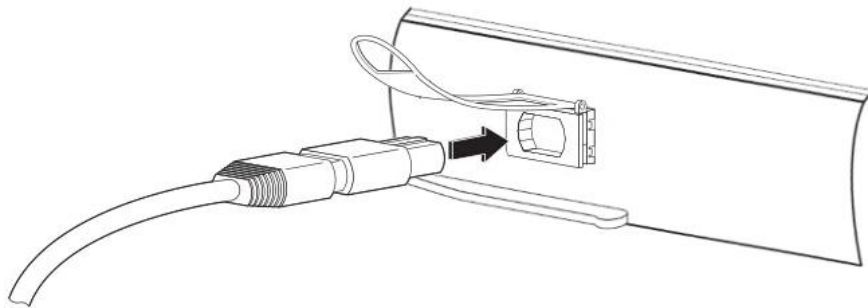

Figure 17: Connecting the cable to QSFP+ Module
2. Insert the fiber cable into the module, as shown in Figure 17.